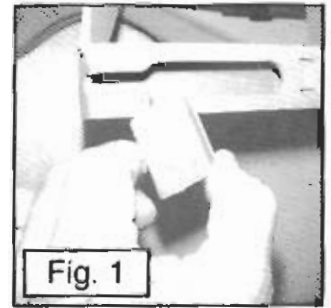

Fig. 1
A. Attach the base platform to the tree first. To do this, rotate the hatch cover out of the way, as shown in **Figure 1**.